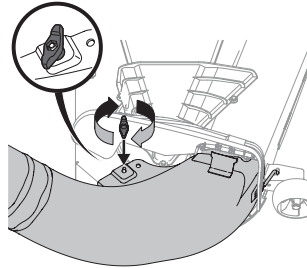

Figure 20
5. Secure the discharge chute elbow to the cutting deck using a wing knob (720-04122) from hardware pack 689-01419. Refer to Figure 20.